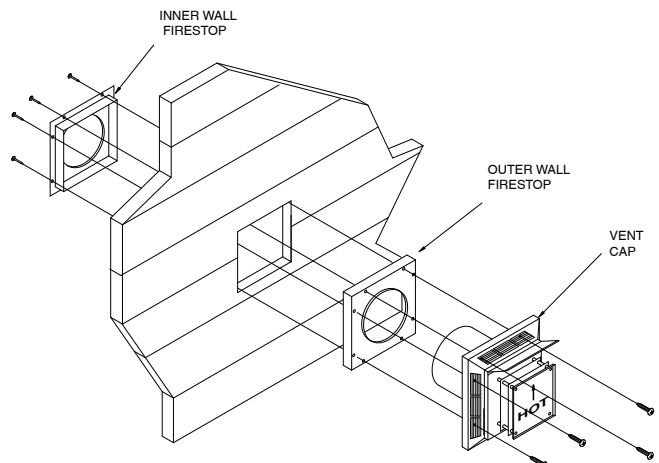

Figure 15 - Installing Outer Wall Firestop
7. **Combustible Exterior Wall Only:** Fit the outer and inner wall firestop into the wall before connecting horizontal run to vent cap (see **Figure 15**).